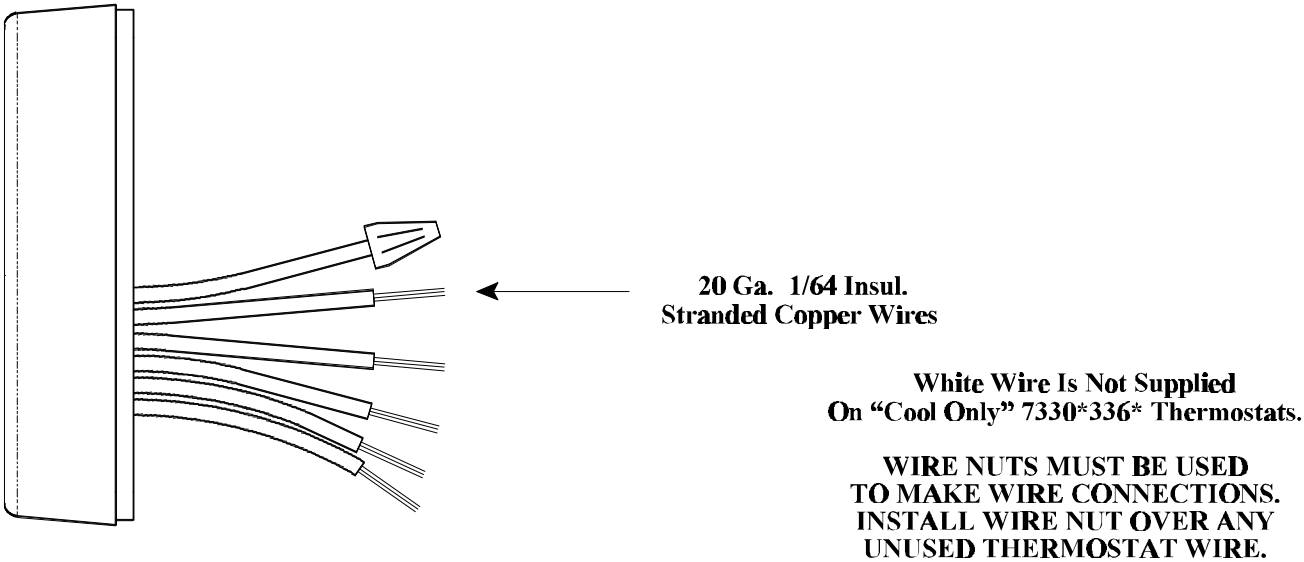

FIGURE 3
2. Use the Wire Cross Reference Chart and connect the appropriate conductor to the wire which protrudes from the back of the thermostat (See Figure 3). If this is a first time installation, note the thermostat wire color for future reference in order to properly connect the thermostat wiring to the ceiling assembly.